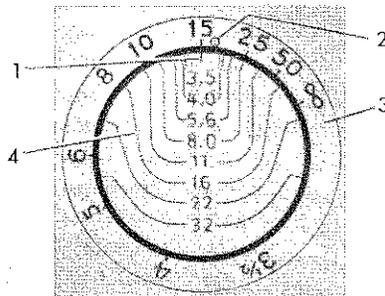

Figure 14—Depth-of-Field Scale
If infrared film is used, determine the camera-to-subject distance with the range finder, then move the focusing collar to bring the figure representing the distance for which the lens is focused to the *red dot* (2, figure 14) on the focusing scale. This is necessary because infrared rays come to a focus slightly behind the focus of visual rays.
(2) Under some conditions, it may be desirable to estimate distance and focus the lens through reference to the focusing scale. This method is seldom used unless the subject is 10 or more feet away from the camera, since at the shorter distances the depth of field is relatively restricted. Estimate the distance and then turn the focusing collar until the figure representing the camera-to-subject distance is at the index mark (1, figure 14) of the focusing scale.
(3) The depth-of-field scale (4, figure 14) tells at a glance the depth that will be obtained at the distance focused on. To find the depth of field for a given distance and lens opening, read the distances on the outside ring at the lines coming from the chosen *f/* number on the circular scale. For example: If the camera is focused for 15 feet and *f/5.6* is used, everything from about 11 feet to about 20 feet will be sharp; with *f/11*, everything from about 9½ feet to 35 feet will be sharp. (See figure 14.)